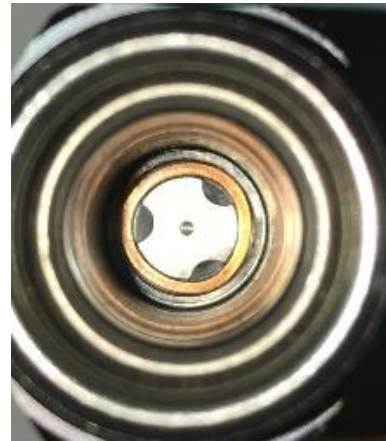

Figure 7-15: Solenoid Base Interior
10. Check to make sure the copper ring in the bottom of the solenoid base is not missing or broken into pieces. See Figure 7-15.